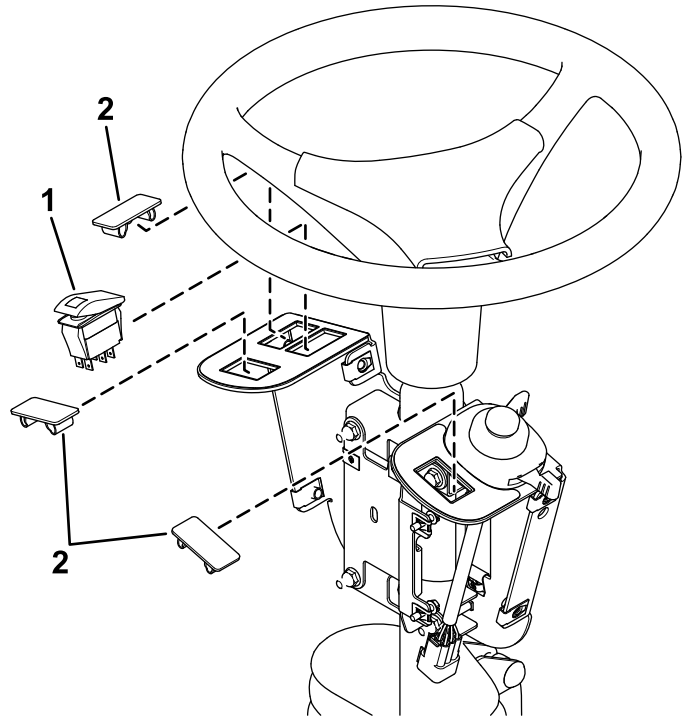

**Figure 4**
2. Install the multi-function switch to the switch mount and secure it using the switch clips under the hole for the switch (Figure 4).